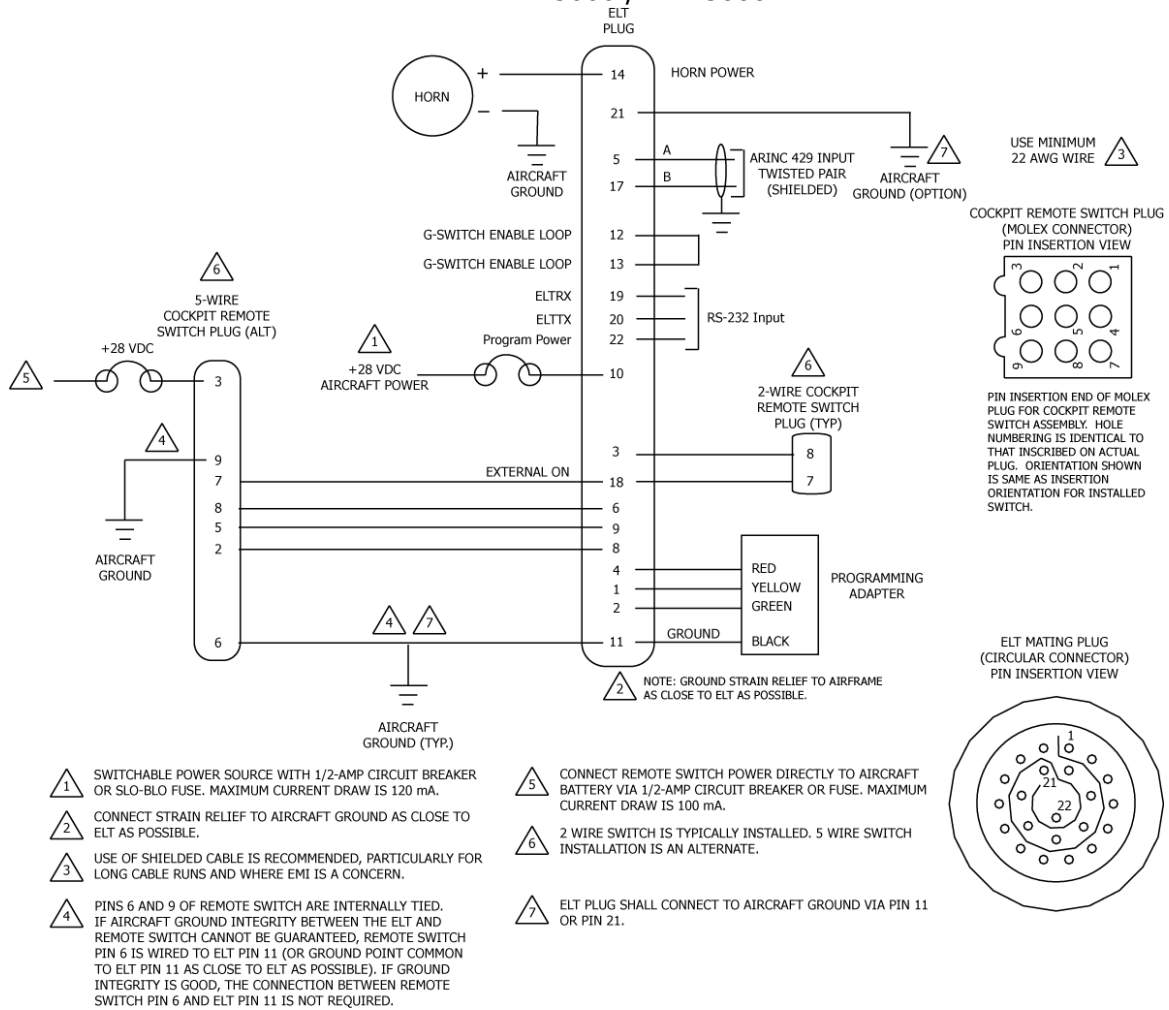
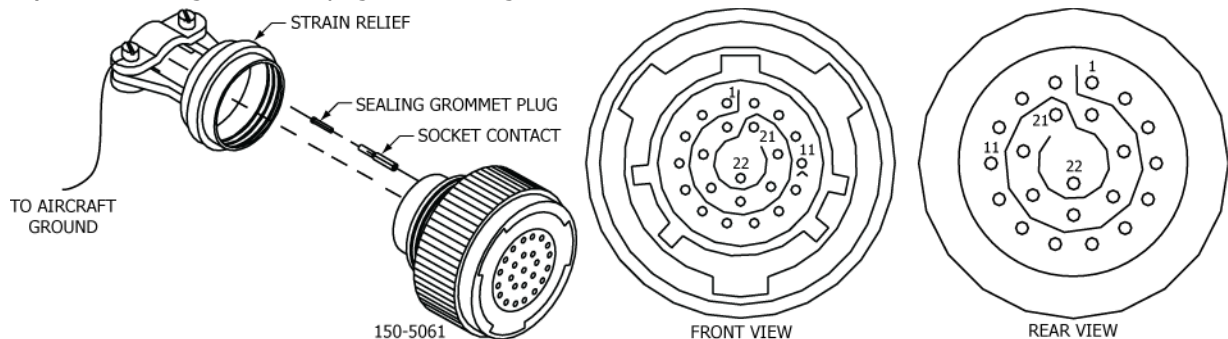

Figure 23 Wiring Diagram
Figure 24 Harness ELT 22-Pin Plug Arrangement
NOTE: This wire will be crimped in the same pin as the wire running from Pin 11 of the ELT plug to the cockpit remote switch plug Pin 6, if the Pin 11 to Pin 6 connection is required. See Note 4 in Figure 23 on page 60. Alternatively, the wires may be spliced in a manner acceptable to the aircraft manufacturer, or as described in AC 43.13-1, Paragraph 11-167.
- a) The Pin 11 ground wire. The wire running from Pin 11 to remote switch Pin 6 is terminated in the same pin, if this wire is required. See Figure 23 on page 60. Make a note of the wire identification for later reference.
- 1) Refer to Figure 23 on page 60 and Figure 24 below.